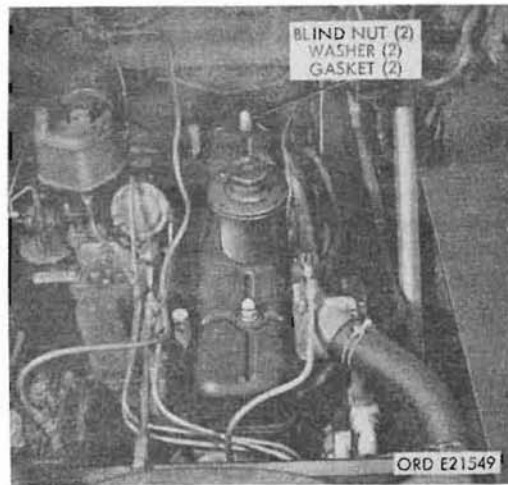

Figure 81. Valve rocker arm cover
b. Remove Valve Rocker Arm Cover (Fig. 81). Stop the engine. Disconnect the valve control wire from the crankcase ventilation shutoff valve at the crankcase breather (if present). Loosen the screw securing the control wire in the control wire clip on the rocker arm cover and pull the control wire from the clip. Remove two high crown blind nuts, plain washers, and gaskets holding the valve rocker arm cover on the cylinder head, and remove the cover and cover gasket. Discard the gaskets.
d. Install Valve Rocker Arm Cover. Stop the engine. Install the valve rocker arm cover (fig. 81) with a new cover gasket, and secure with two annular gaskets, plain washers, and high crown blind nuts. Tighten the nuts securely. Check for leakage at the gasket. Slide the shutoff valve control wire through the wire clip on the cover and connect the wire to the crankcase ventilation shutoff valve on the crankcase breather. Tighten the screw on the clip to secure the wire.